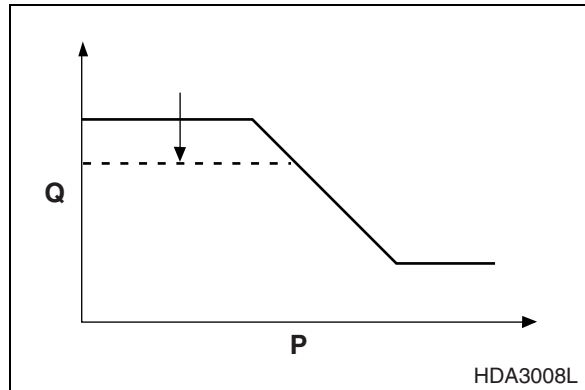
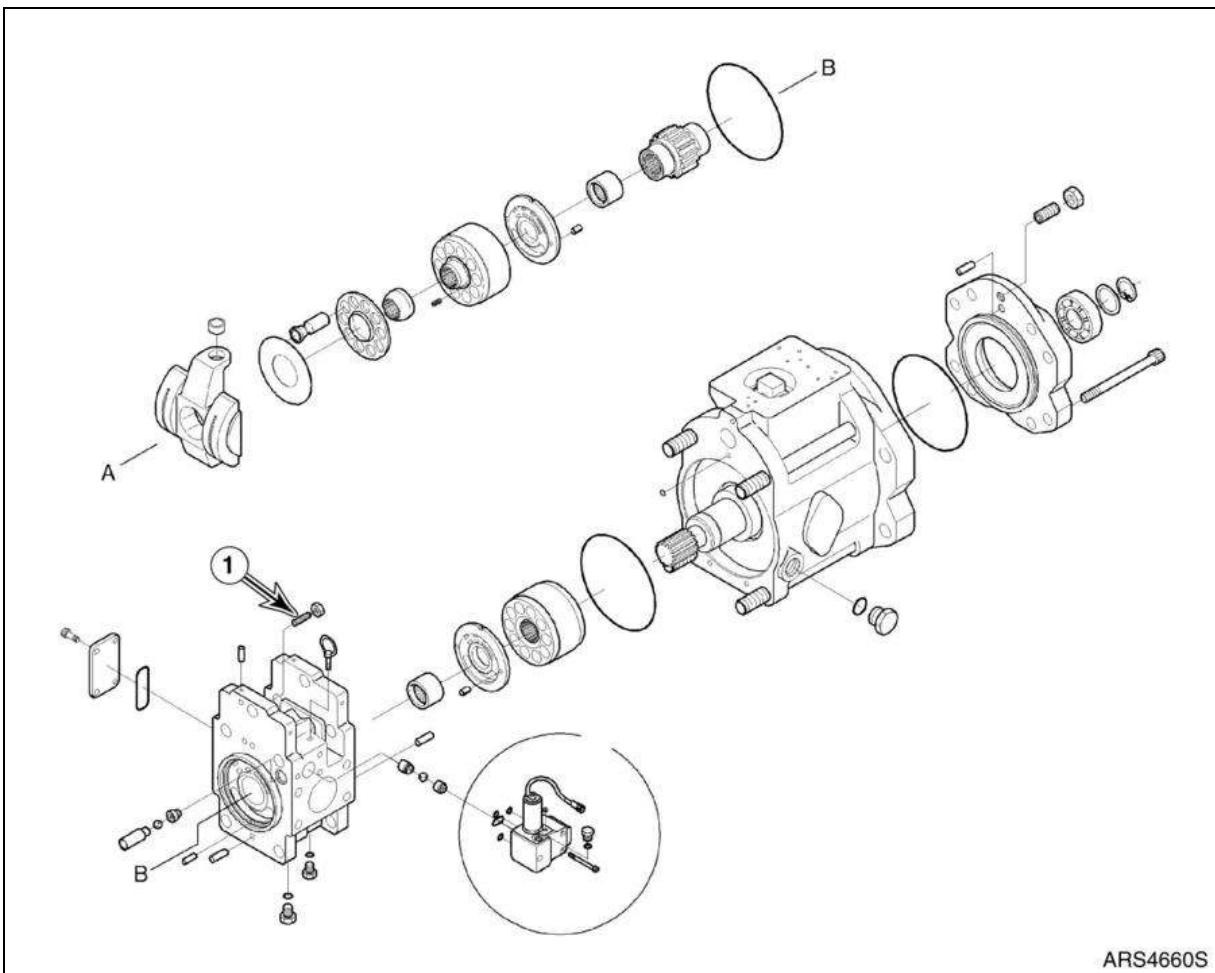

Figure 15
Figure 16
The adjusting screw (1, Figure 16) affects the delivery rate (Q) of the pump. Tightening the adjusting screw decreases the maximum cut flow (as shown in Figure 15) while backing out the screw increases cut flow delivery rate.